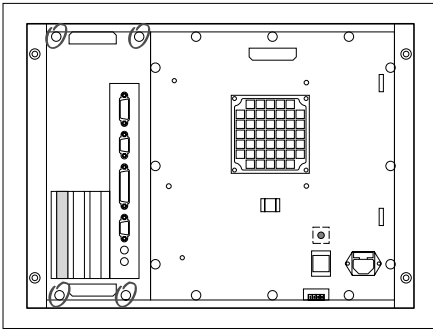

Figure 1
- ① Unscrew the four designated screws (see figure 1 below).